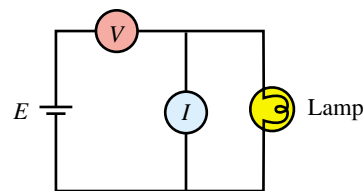

FIGURE 2-33 What is wrong here?
45. What is wrong with the metering scheme shown in Figure 2-33? Fix it.